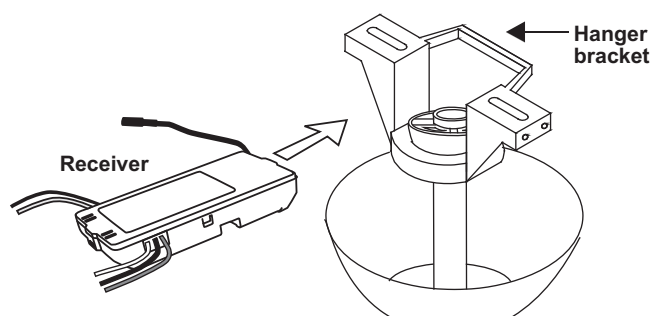

Figure 12
1. Insert Receiver into Hanger Bracket with the flat side of the Receiver facing the ceiling. (Fig. 12)